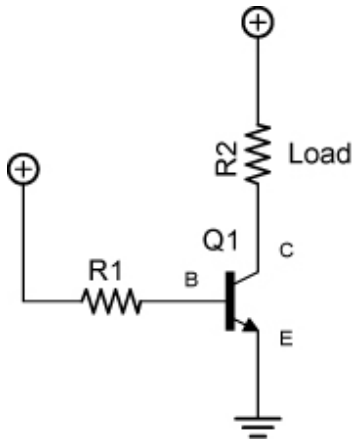
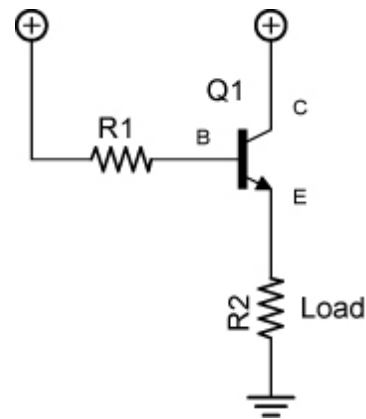

Figure 28: Load between the Power Supply and Collector
Figure 29: Load between the Emitter and Ground
- The problem with the load being placed between the emitter and ground is that current flows through load R2 which creates a voltage drop across the load (Figure 29). This raises the voltage at the emitter which causes the base current to decrease which reduces the current through the transistor. The collector-emitter voltage then rises, diminishing the performance of the transistor switch. The load should be placed between the power supply and collector in a NPN transistor switch circuit (Figure 28).